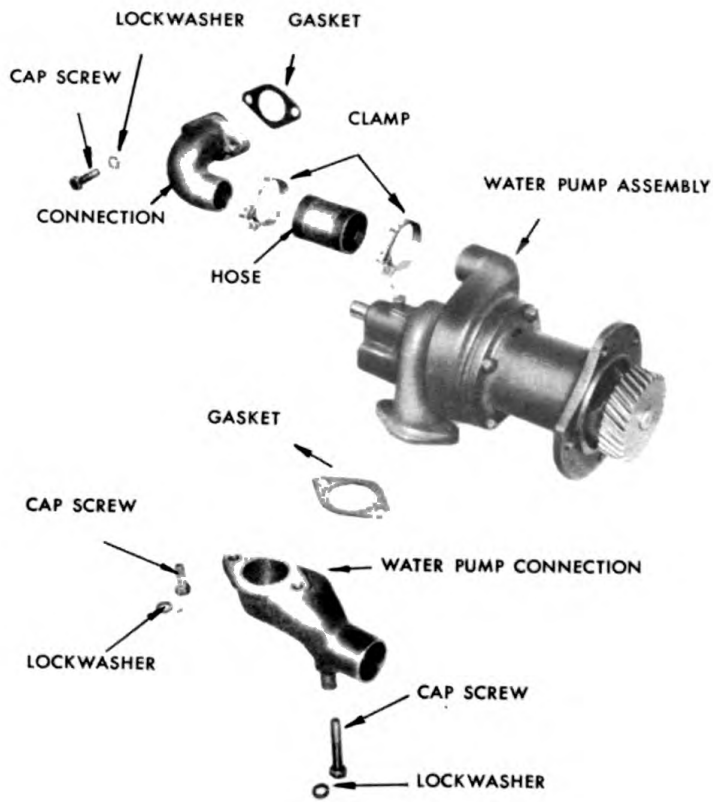

Figure 221. Water Pump Assembly.
- a. Remove the four nuts holding the water pump body to the drive bearing sleeve and separate the two parts as shown in figure 221. Drive out the impeller pin with a punch as shown in figure 222.